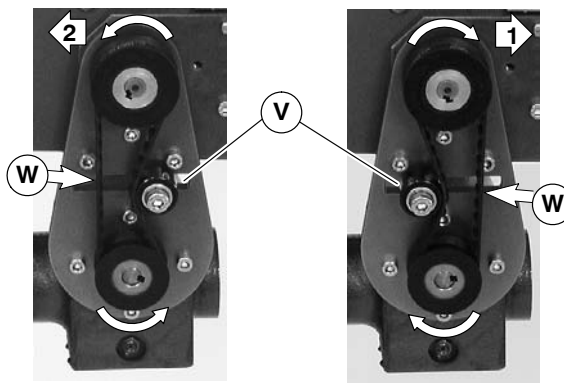

Figure 8
7. Depending on direction of conveyor belt travel (1 or 2 of Figure 8), position belt tensioner (V) as shown. Tension belt to obtain .125" (3 mm) deflection for 1.0 lb (456 grams) of force at belt mid-point (W). Tighten tensioner screw to 103 in-lb (12 Nm).
12. Depending on direction of conveyor belt travel (1 or 2 of Figure 8), position belt tensioner (V) as shown.